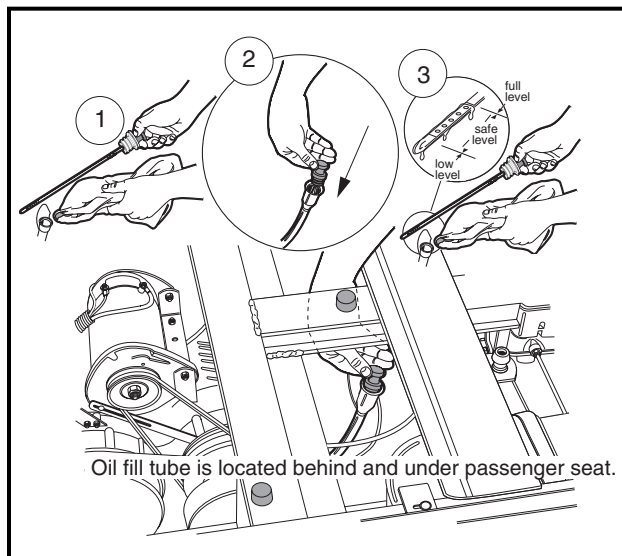
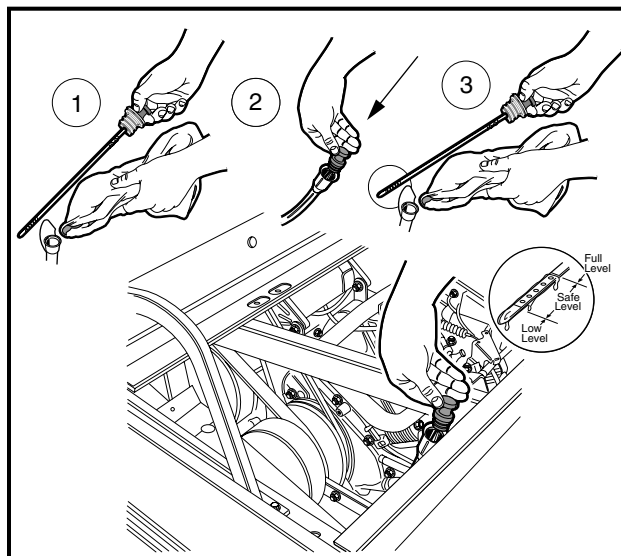

Figure 19 Engine Oil Level Check – Pioneer 1200
Figure 20 Engine Oil Level Check – Pioneer 1200SE
1. Remove the oil level dipstick from the oil filler tube and wipe oil from stick. **See Figure 19 or Figure 20. See following CAUTION.**